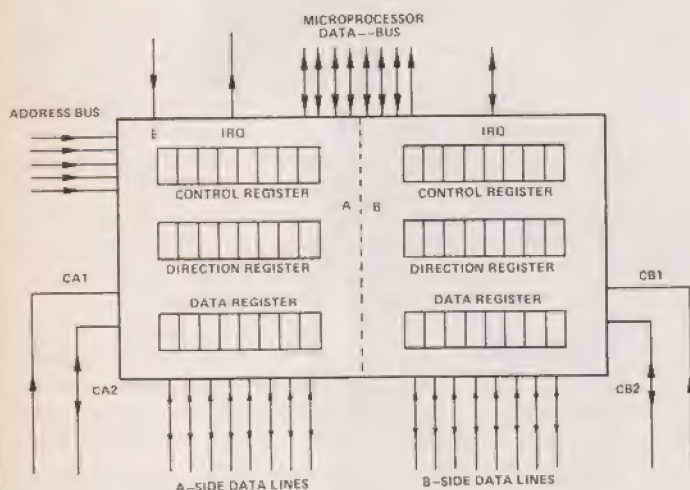

Figure 3 The Motorola PIA.
- INTERNAL ADDRESS wires** to select a particular location, the number of them depending on the memory capacity. Thus the RAM shown in Figure 3 has seven, allowing 128 different address codes. They are labelled A_0 to A_6 and connected to the corresponding lower-order address lines on the microprocessor address bus. The ROM requires ten internal address wires, labelled A_0 to A_9 in order to select any one of 1024 address codes. These are also connected to the corresponding lower-order lines on the address bus.
Figure 3 shows the interface presented to peripherals by the Motorola PIA, which is a good example of a memory mapped I/O port.